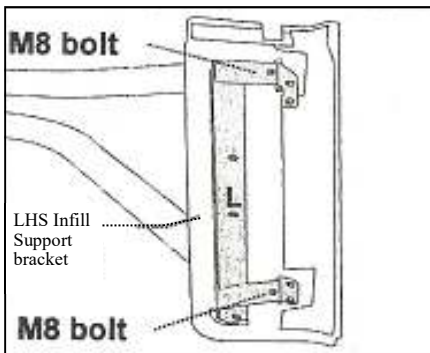

Fig. 5H
**Refer to Fig. 5H & 5J for correct orientation for this bracket.**
**Refer to Fig. 5H**